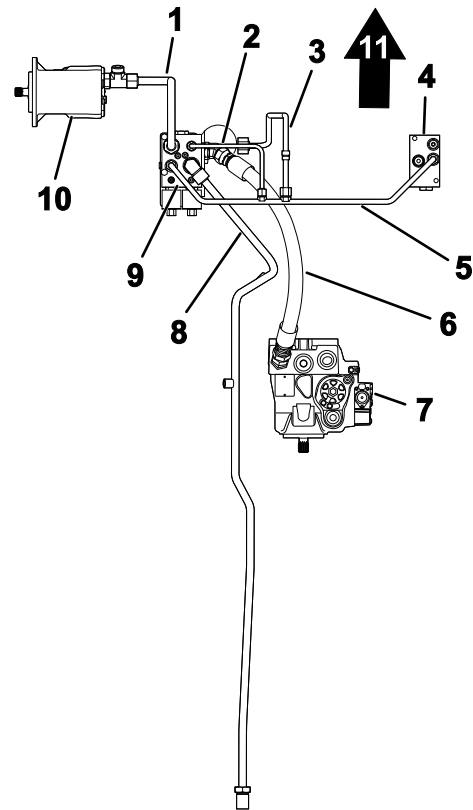
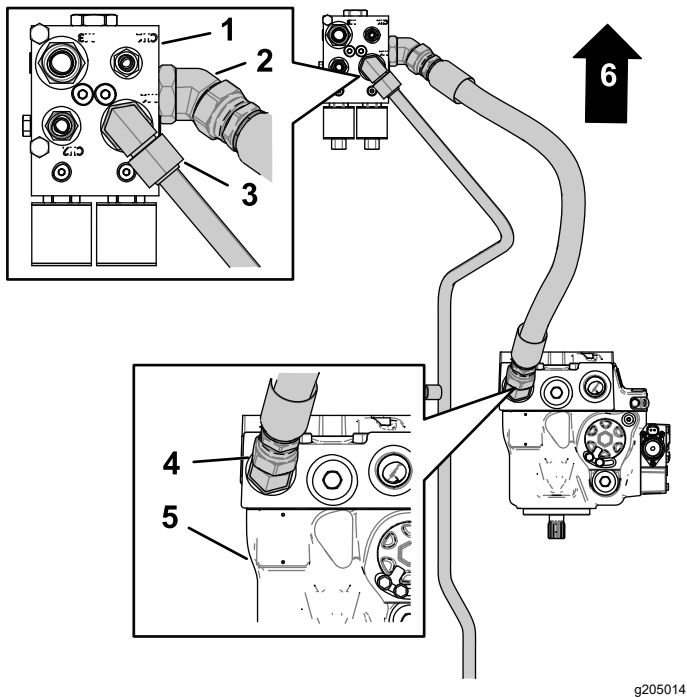

Figure 7
Figure 8
1. Align the forward tube nut for the rear-traction tube with the elbow fitting in the flow-divider manifold (Figure 7 and Figure 8).
- Thread one straight end of the pressure hose into the fitting in the hydraulic pump (Figure 8).
- Thread the other straight end of the pressure hose into the fitting in the side of the flow-divider manifold (Figure 8).